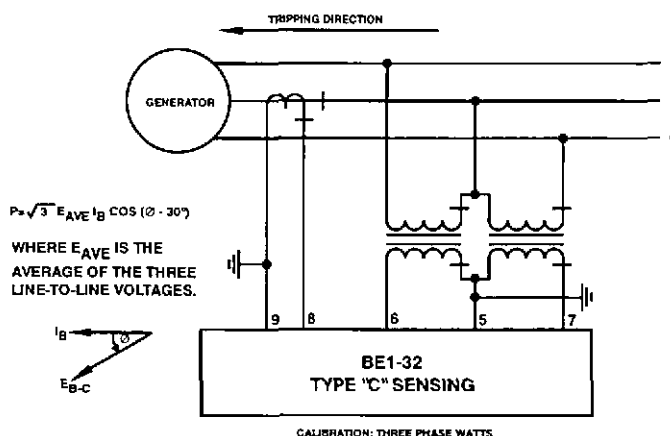

Figure 9 - Three Phase, Type C Sensing
**Type C Sensing:** Three-phase Scott Tee (Figure 9). The type C sensing configuration monitors three line-to-line voltages and a single phase current of a three-phase, three-wire circuit and calculates the power flowing in the tripping direction. The relay measures actual power even if the system voltages are not balanced. Relays with this sensing type are calibrated in three-phase watts.